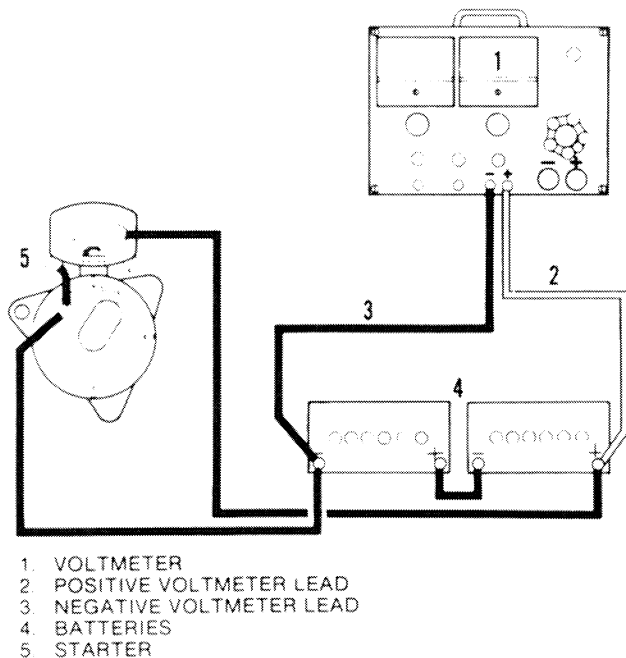

Figure 8-5. Test Connections for Complete Starting Circuit
- (1) Check for cracks or other damage in the battery case, the battery cover, and the battery posts. If you find damage, discard the battery.
- (2) See figure 8-5. Connect the positive voltmeter lead to the positive battery post of the right battery.
- (3) Connect the negative voltmeter lead to the negative battery post of the left battery.
- (4) Turn the IGN switch to the ON position.
- (5) Hold the START button in while you read the indication on the voltmeter. Write the indication on a sheet of paper.
- (6) If the indication on the voltmeter was 18 volts or more, no other testing is needed.
- (7) If the indication on the voltmeter was less than 18 volts, do Test step c, Test step f, and Test g as needed.
- (8) Turn the IGN switch to the Off position.